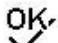

Figure 3-56: Tare Table Edit Screen
- Press the EDIT softkey  to open the setup screen for editing a record (Figure 3-56) or press the NEW softkey  to open the setup screen to create a new table record.